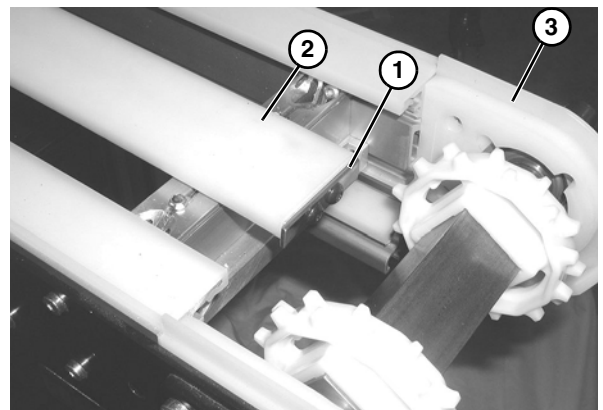

Figure 38
The stop plate (**Figure 38, item 1**) on the center wear strip (**Figure 38, item 2**) faces the drive end (**Figure 38, item 3**) of the conveyor.